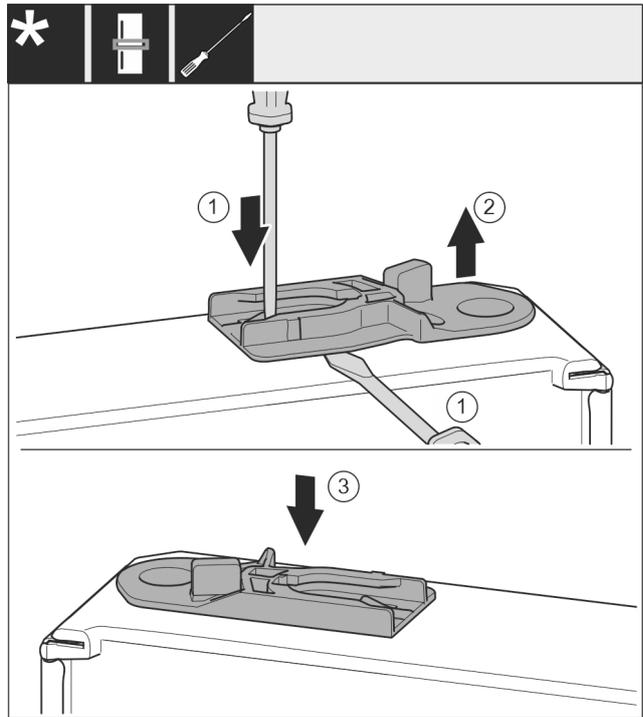

Fig. 53 *
- ▶ Pull out the guide bush: Press the tab Fig. 53 (1) with a flat-blade screwdriver and at the same time move the flat-blade screwdriver under the guide bush Fig. 53 (2).*
- ▶ Insert the guide bush Fig. 53 (3) supplied on the other side of the housing.*